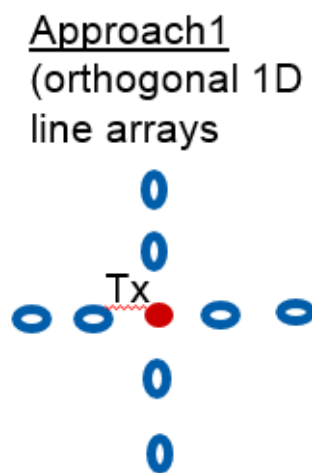

Figure 1 1D Orthogonal Array
- 1) Arrange two orthogonally-oriented switched 1-D sparse antennas which would combine images to get 2-D images. The orthogonal oriented switch configuration is shown in Figure 1[3].